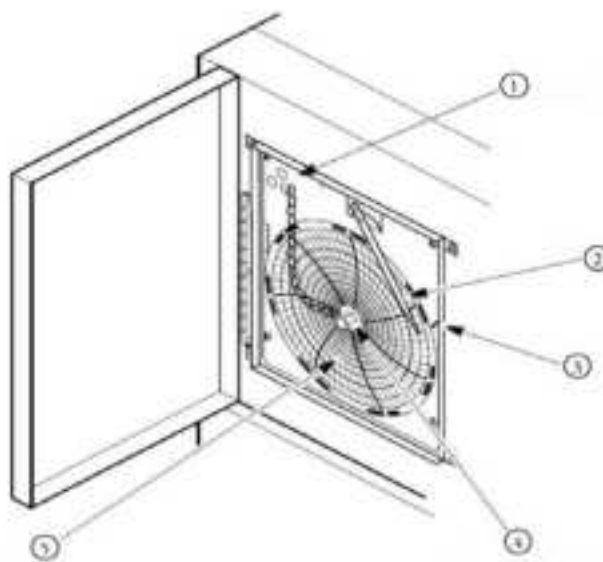

Figure 11. Chart Recorder
3. Unscrew the center nut, remove the old chart paper, and install new chart paper. Carefully align the day and time with the reference mark on the recorder panel (a small groove on the left side of the panel, as shown in Figure 11).